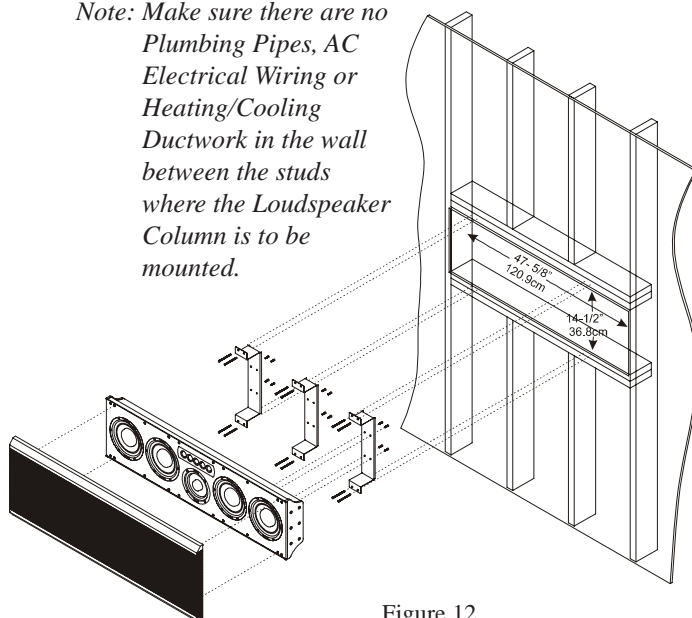

Figure 12
27. Use a suitable wall stud finder or metal detector to verify a proper mounting location for the Loudspeaker System before cutting into the wall. The CK27 is designed for attaching to wall headers with 16 inch (40.64cm) centers. Refer to figure 12.